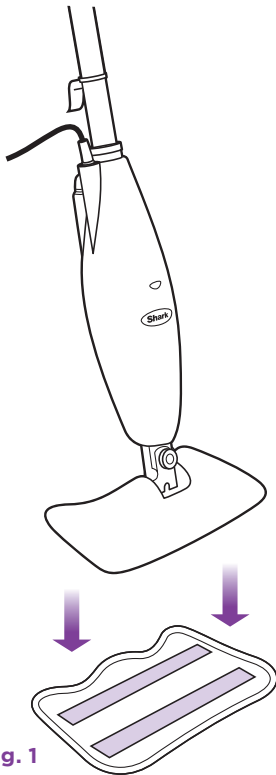

fig. 1
- 1 Place the micro-fiber cleaning pad on the floor with the quick fastener strips facing up. Place the **Light & Easy™** Steam Mop on the top of the pad to attach. (**fig. 1**)